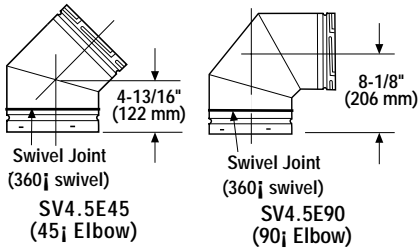

Figure 18
H. Change vent direction to horizontal/inclined run - At transition from or to a horizontal/inclined run, install the SV4.5E45 and SV4.5E90 elbows in the same manner as the straight vent sections. The elbows feature a twist section to allow them to be routed about the center axis of their initial collar section to align with the required direction of the next vent run element. **Twist elbow sections in a clockwise direction only so as to avoid the possibility of unlocking any of the previously connected vent sections.** See **Figure 18**.
Analyze the vent routing and determine the types and quantities of sections required 4-1/2" (114 mm), 10-1/2" (267 mm), 22-1/2" (572 mm), 34-1/2" (876 mm) and 46-1/2" (1181 mm) net section lengths are available. Plan the vent lengths so that a joint does not occur at the intersection of ceiling or roof joists. Make allowances for elbows as indicated in **Figure 18 on page 13**.
J. Change vent direction - At transition from or to a horizontal/inclined run, install the SV4.5E45 and SV4.5E90 elbows in the same manner as the straight vent sections. The elbows feature a twist section to allow them to be routed about the center axis of their initial collar section to align with the required direction of the next vent run element. **Twist elbow sections in a clockwise direction only so as to avoid the possibility of unlocking any of the previously connected vent sections.** See *Figure 18 on page 13*.